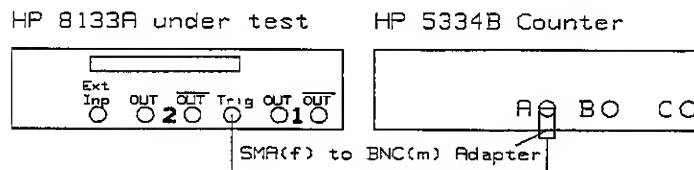

Figure 6-1. Internal Clock Low Frequency Test Set-up
1. Connect the HP 8133A **TRIGGER** Output to the HP 5334B Counter Input A as shown in Figure 6-1